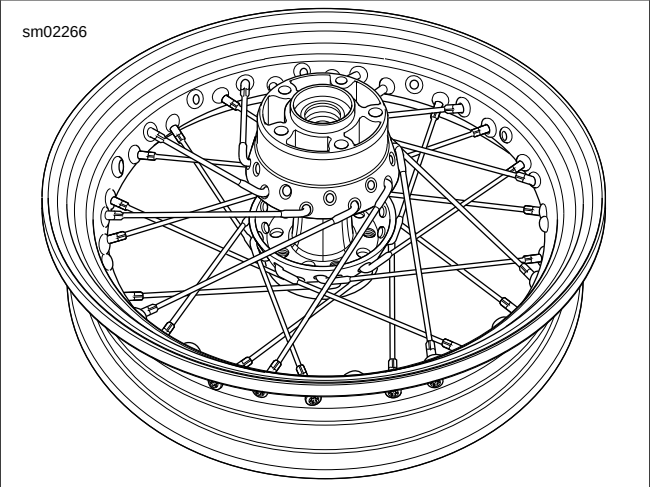

Figure 2-28. Sprocket Side Up: Bottom Row of Spokes Laced
8. See Figure 2-28. Place remaining nine lower row spokes, angled clockwise, into hub and rim.